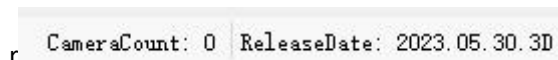

图 1.42 状态栏
② **Status bar:** display of the number of connected cameras and version models, see Fig. 1.42